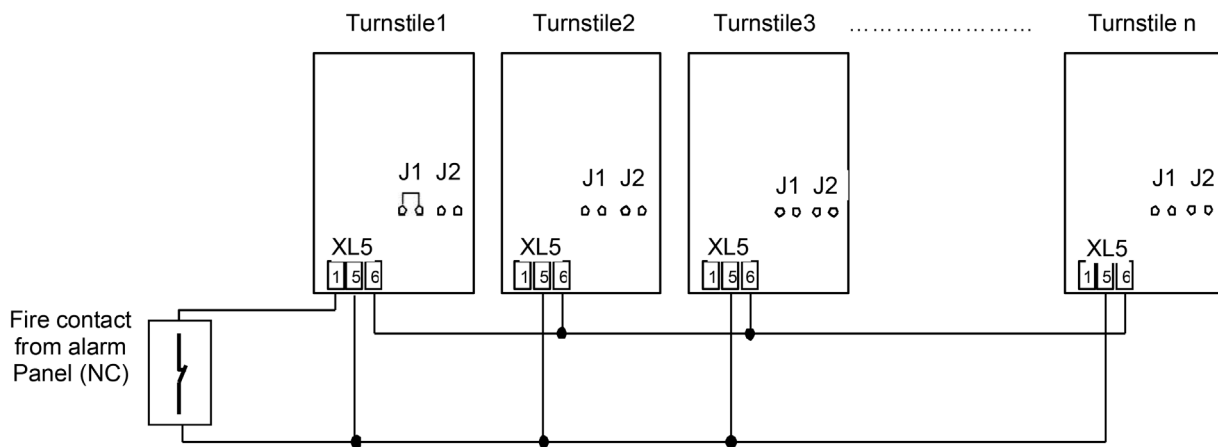

Figure 5.7 Alarm cable connection diagram
The emergency contact from the alarm panel (Normally closed - NC) must be connected to the first turnstile in a group of turnstiles. The other turnstiles must have a 2x0.50mm alarm cable connecting one with another in sequence. An emergency connection can be made with a single contact by grouping as many turnstiles as desired. The J2 jumpers on the control card of the turnstiles to have emergency connection must be removed. Normally closed (NC) contact is required from the alarm panel in the following connection. As shown in the diagram, the J1 jumper is installed on the control board in the first turnstile with alarm cable, while it is not installed on other turnstiles. If installed, it must be definitely removed. (Figure 5.7) Pin 6 (GND) of terminal XLS of turntables are connected to each other, and the pin 5 emergency inputs are connected to each other. Finally, the emergency contact from the alarm panel is connected to pin 1 (+ 24VDC) and pin 5 of terminal XL5.